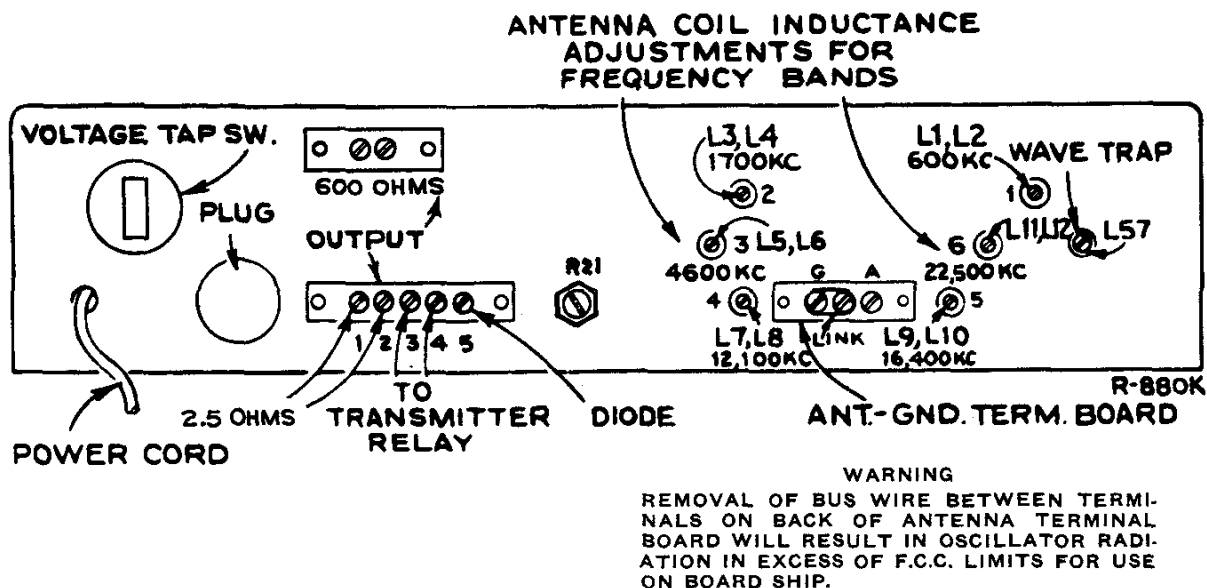

Figure 2—Diagram of Rear of Chassis
The antenna terminal board is provided with three terminals (see Figures 2 and 12), two of which may be joined together with a link. When a single wire antenna is used, the link should be closed and the antenna connected to "A." If a ground is used, it should be connected to "G." If a transmission line or balanced input is used, the link should be opened and the line connected to terminal "A" and the center terminal.
Power Pack — The power pack mounted on the receiver chassis consists of a power transformer, rectifier tube RCA-5Y3GT, and filter. A tap switch is provided on the rear apron for changing the power transformer voltage tap. (See Figures 2 and 12.) The voltage for which the switch is set may be read directly on the switch. The instrument may also be operated from 6V. "A" and 250 to 300 V. "B" batteries, or Vibrator Power Supply Unit MI-8319-A.
Speaker — Terminals for connection of a loudspeaker are indicated in Figures 2 and 12. The output transformer is designed to match a speaker having 2.5 ohms impedance.
2. Transmit position which gives energized tube filaments, open plate circuits, and shorted terminals for transmitter relay on the speaker terminal board on the back of the chassis. Connect relay to these two terminals for transmitter operation. See Figure 2.